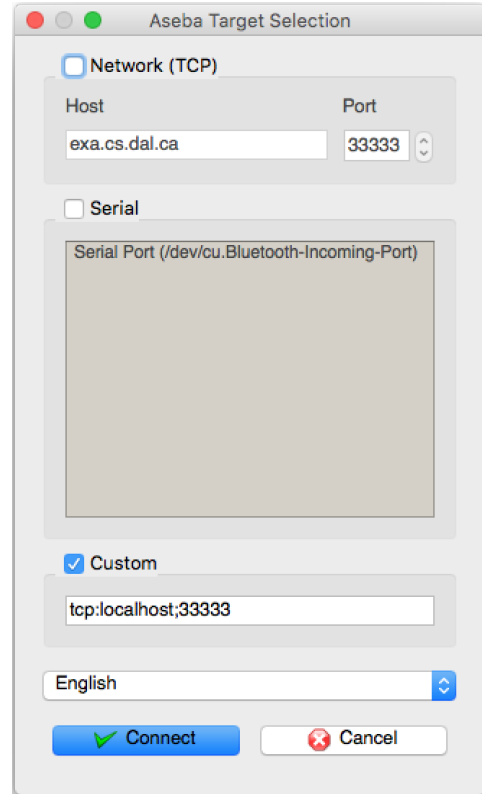

Figure 14: Select *Custom*.
- (c) Check the **Custom** option of the connection dialog box (see Figure 14). Enter the connection information: